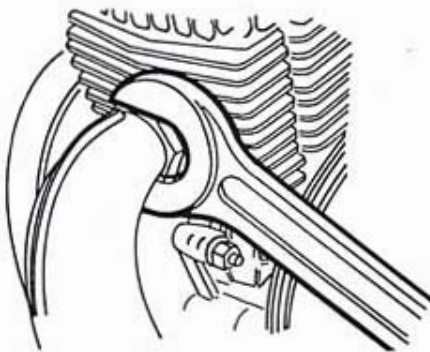

Fig. 3
- Loosen the nut (32mm wrench) threaded into the cylinder and remove the exhaust completely (fig. 3).